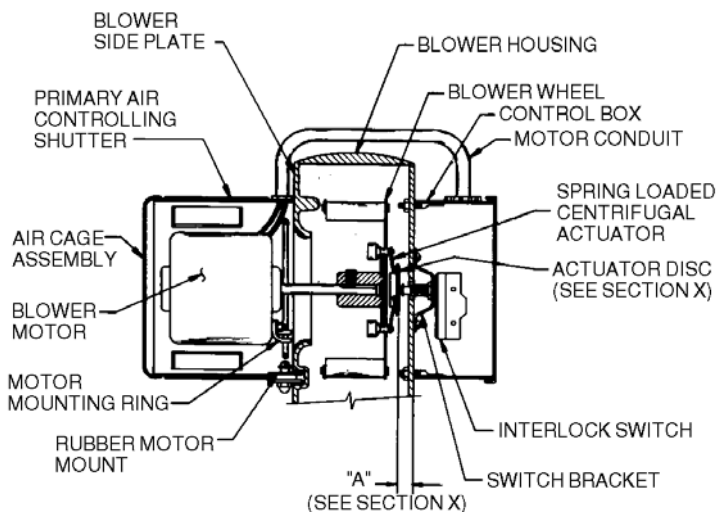

Figure 7: Motor, Blower Wheel and Interlock Assembly
- B. Voltage present: check that switch bracket is screwed down tight (see Figure 7). If so, without disconnecting switch wires, remove switch bracket and manually depress switch plunger. If voltage is still present, or if the plunger has to be depressed to where dimension "A" of Figure 7 is less than 9/32" when switch clicks over, replace the switch.
- c. Between electrode tip and top of ground rod (see Figure 7). If electrode tip is not visible but spark can be heard continue with test II.C.4.
1. Check flame rod position per Figure 7.